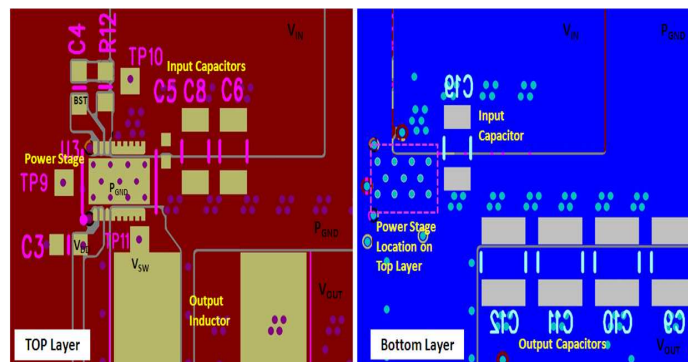

Figure 17. Recommended PCB Layout (Top Down View)
- The placement of the input capacitors relative to V_{IN} and P_{GND} pins of CSD97394Q4M device should have the highest priority during the component placement routine. It is critical to minimize these node lengths. As such, ceramic input capacitors need to be placed as close as possible to the V_{IN} and P_{GND} pins (see Figure 17). The example in Figure 17 uses 1 x 1 nF 0402 25V and 3 x 10 μF 1206 25 V ceramic capacitors (TDK part number C3216X5R1C106KT or equivalent). Notice there are ceramic capacitors on both sides of the board with an appropriate amount of vias interconnecting both layers. In terms of priority of placement next to the Power Stage C5, C8 and C6, C19 should follow in order.
- Use the smallest drill size allowed in your design. The example in Figure 17 uses vias with a 10 mil drill hole and a 16 mil capture pad.